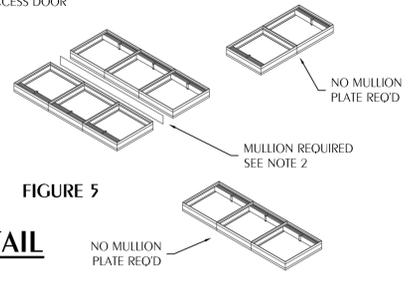

FIGURE 5
Multiple section horizontal mount dampers require a 1/4" gage thick x 4 1/2" (2 x 114) wide steel reinforcing plate sandwiched between the damper frames with 1/2" (12) long welds staggered intermittently and spaced on maximum 6" (152) centers. The reinforcing plate must be the same material as the dampers. The length must be equal to the damper width of two or more adjoining damper sections. Reinforcing plates are not required for assemblies consisting of two dampers attached end-to-end or three dampers attached side-to-side as depicted in figure 5.